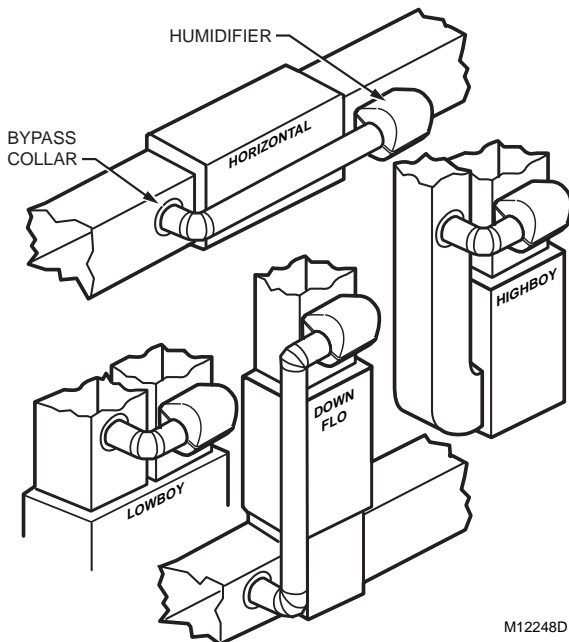

Fig. 1. Typical Humidifier installation locations.
1. Select a location to mount the Humidifier on the supply (warm air) or return duct. See Fig 1.
2. Select a location for the Bypass Collar on the opposite duct. See Fig. 1. (The Humidifier is designed to allow Bypass Duct mounting on either side of the Humidifier. See Fig. 2.)